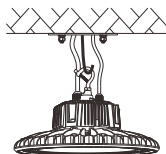

Figure 2
- 2.Please hang the fixture into the lifting hook or chain and protect it from falling.(Figure 2)